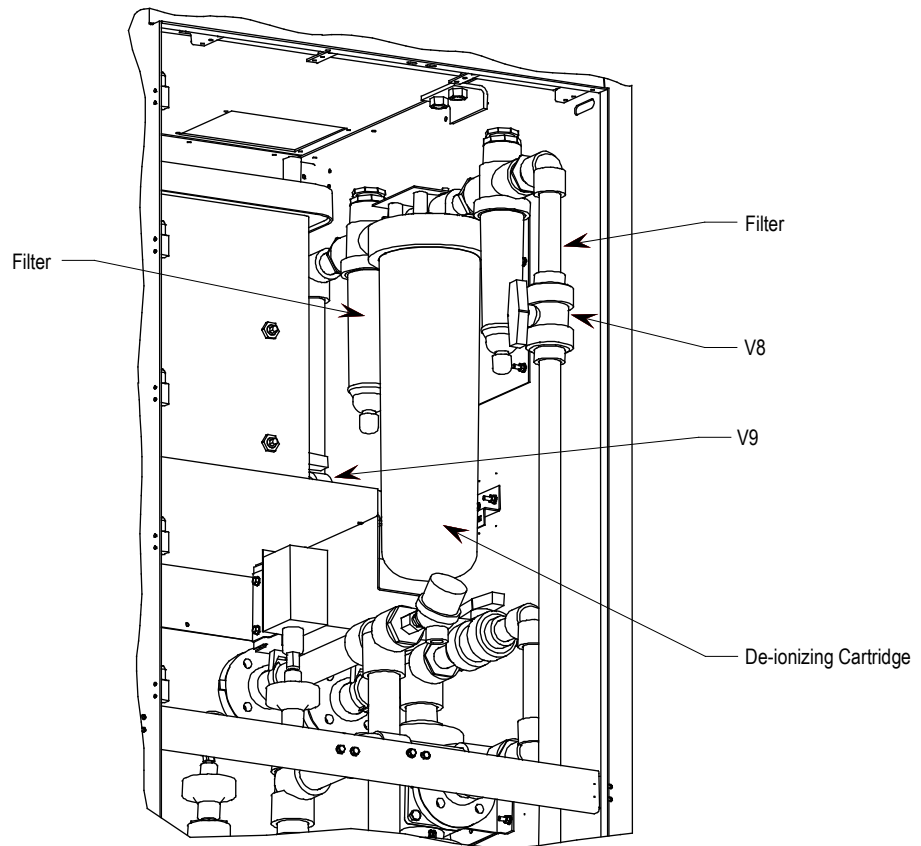

Figure 4.61 – Reservoir Circuit
1. Close valves V8 and V9, if provided, and unscrew the housing (see Figure 4.61).